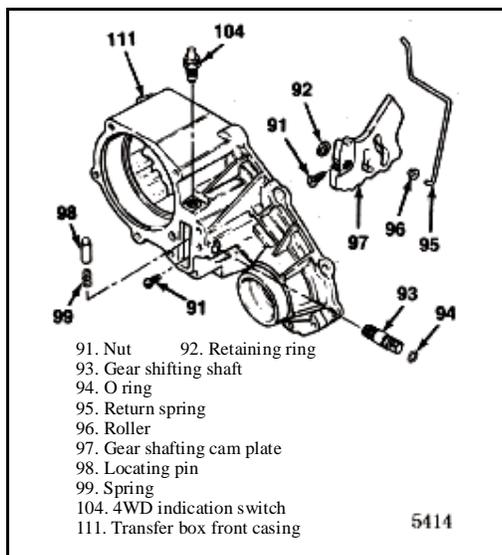

Fig. 5-7
Install the mechanical gear shift assembly in the following steps (see Fig. 5-7):
1. Install lubrication O ring (94) onto gear shifting shaft (93), and punch the end gear shifting shaft spline into the transfer box until it is flushed with the casing end face. The shaft position is as shown in Fig. 5-7.
2. Apply grease on limiting pin (98) and spring (99), and place the two parts into the holes in transfer box (111) . Insert gear shafting cam plate (97) into the casing as shown in Fig. 5-7 with the flat end of the plate flushed with the front surface of the casing roughly. At the same time, take care not to miss the limiting pin during the insertion. By compressing the limiting pin spring with the plate, align the spline on the plate and the spline on the gear shifting pin shaft, and press the gear shifting pin shaft into the plate fully.
3. Install retaining ring (92) in the groove on the back of gear shifting shaft.
4. Tighten 2 screws (91) into the rear end of gear shafting cam plate and the transfer box casing to the torque of 6.8~9.5N.m respectively. Make sure that gear shifting pin shaft is installed completely and even that the second screw can enter the groove in the gear shifting pin shaft.
5. Install roller (96) on return spring (95), and install them into gear shafting cam plate (97) in firm contact to gear shifting pin shaft (93), and install the other end of the return spring into the groove in the transfer box.
6. Install 4WD indication switch (104) to the torque of 34~47 N.m.